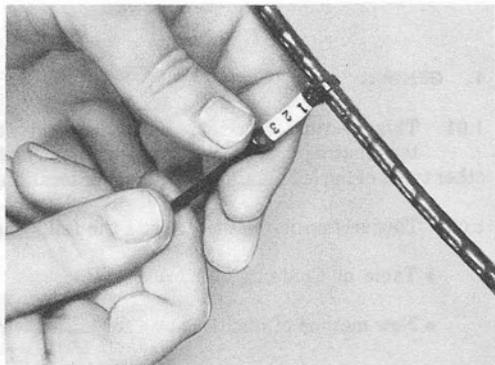

Fig. 2—♦Placing Tie and Marker♦
(2) Wrap the tie around the service wire and slip the tail through the eye of the grommet end and pull taut.
(3) Slide the desired preprinted tubular markers on the tail of the tie, then slide the locking head on the tie and push snug against the markers (Fig. 2).♦